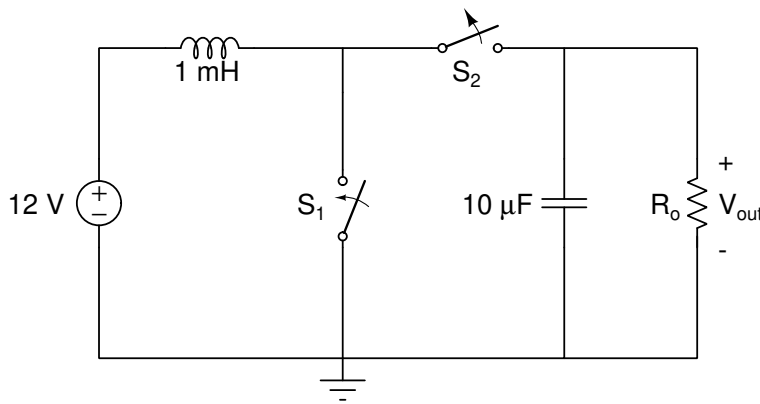

Figure 1: A boost converter circuit containing two synchronized switches.
**Introduction:** In this lab, you will design and simulate a boost converter based on the switched capacitor circuit shown in **Figure 1**. You will analyze how the output voltage changes over the temperature range between  $-40^{\circ}$  and  $+60^{\circ}$  C.
Figure 2: Boost converter circuit implemented with an NMOS transistor driven with a function generator (FG) to represent the switch  $S_1$  and a junction diode to represent the switch  $S_2$  in Figure 1.